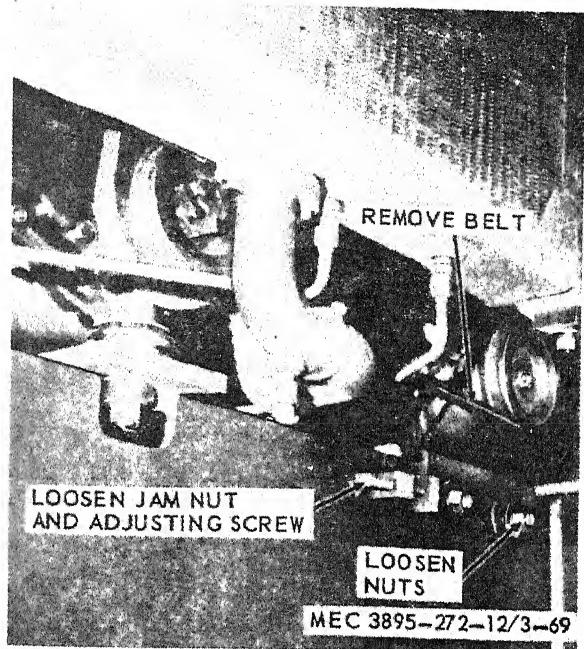

Figure 3-69. Hydraulic pump belt, removal and installation.
- a. Removal. Remove the hydraulic pump belt as instructed on figure 3-69.
- (1) Clean the belt with an approved cleaning solvent.
- (2) Inspect the belt for wear, cuts, and fraying. Replace a badly worn or damaged belt.
- c. Installation. Install the hydraulic pump belt in reverse of the instructions on figure 3-69.